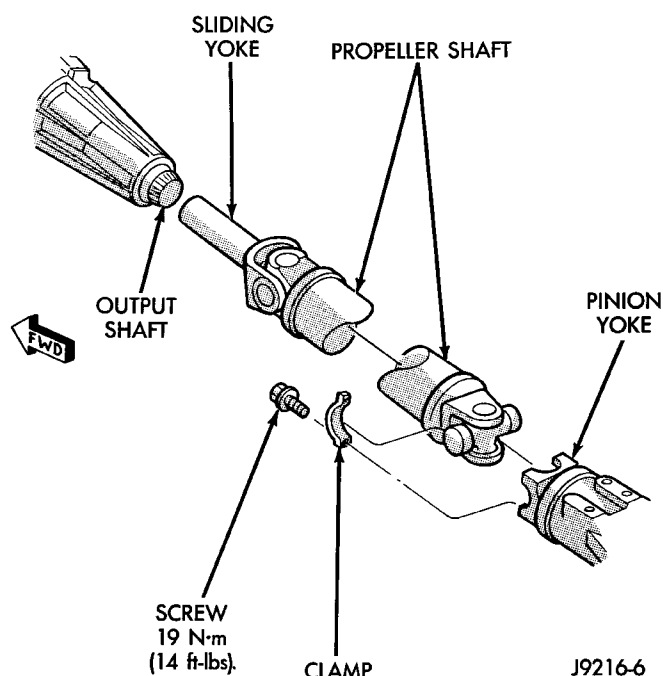

Fig. 14 Rear Propeller Shaft
(1) Raise and support vehicle on safety stands.
(2) Shift the transmission and transfer case, if necessary, to their Neutral positions.
(3) Using a suitable marker, mark a line across the axle pinion yoke and the propeller shaft yoke for installation reference.
(4) Remove the bolts holding the universal joint clamps to the pinion yoke.
(5) Slide the slip yoke off of the transmission, or transfer case, output shaft and remove the propeller shaft (Fig. 14).